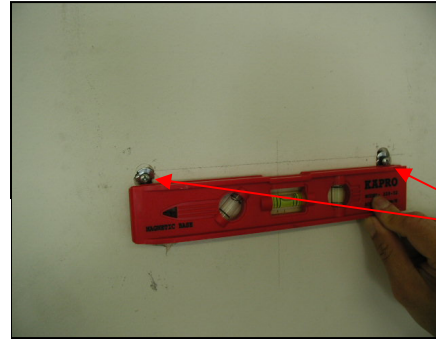

Figure 11
- Using references on Table 2 and measurements on page 15, decide the leveling point of the hood. Position two mounting screws (not provided) on the wall, leaving 1/8" away from the wall as shown in Figure 11.